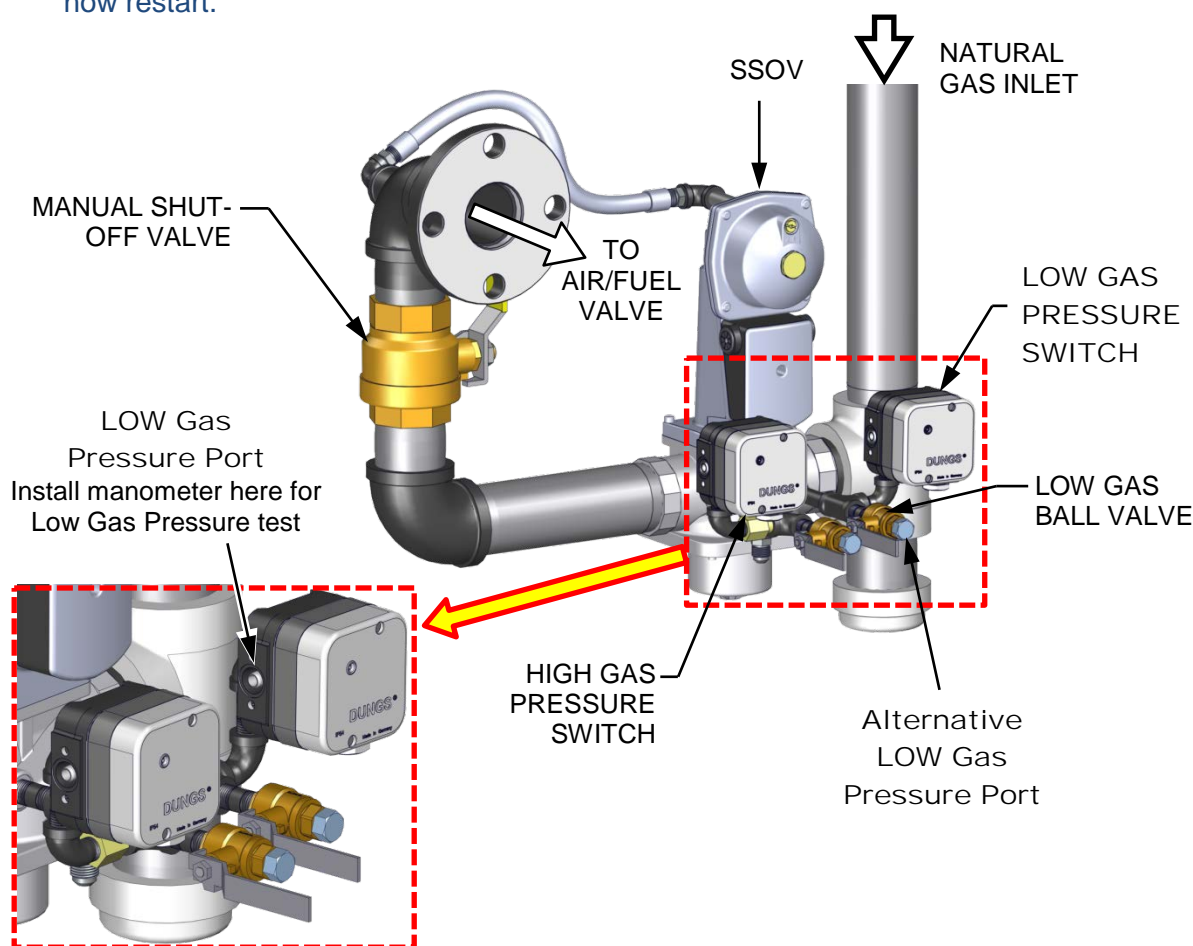

Figure 5-2: BMK 3000 LOW Gas Pressure Test Components
To simulate a low gas pressure fault on BMK 3000 units, refer to Figure 5-2, below, and perform the following steps:
2. Locate the port on the top of the Low Gas Pressure switch (see Figure 5-2, below) and loosen the screw inside a few turns to open it. Do not remove this screw completely. Alternatively, you can remove the 1/4 inch plug shown in Figure 5-2 and install a hose barb fitting in that location.